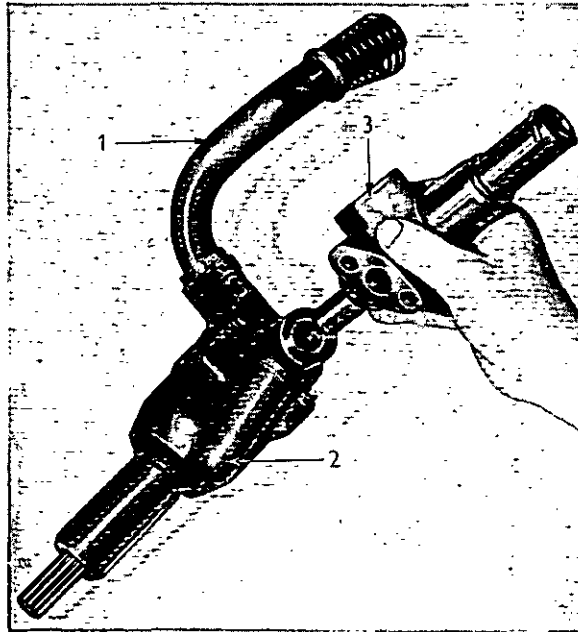

Fig. K.9. Oil Pump and Oil Delivery Housing Assembly.
4. Refit the oil delivery housing to the oil pump (Fig. K.9).